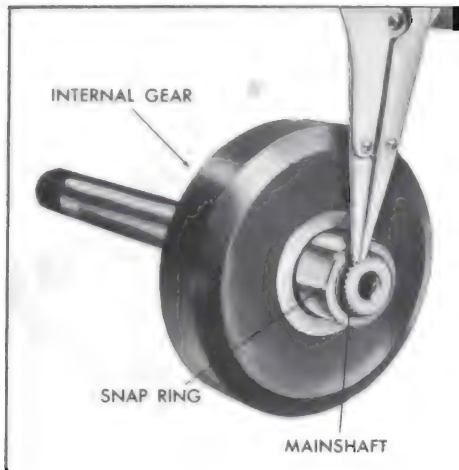

Figure 5-673
2. Install internal gear retaining snap ring. See Figure 5-673.